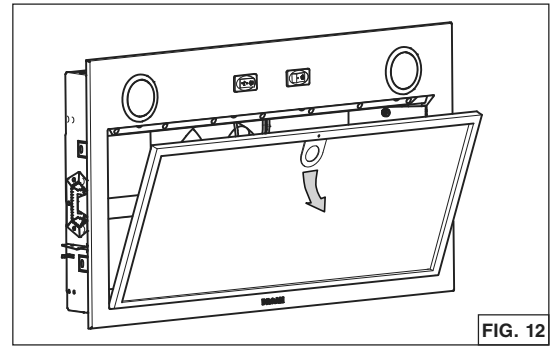

FIG. 12
2. Remove the grease filter(s) by pulling down on tab and tilting the filter(s) downward (FIG. 12). Set aside the filter(s).